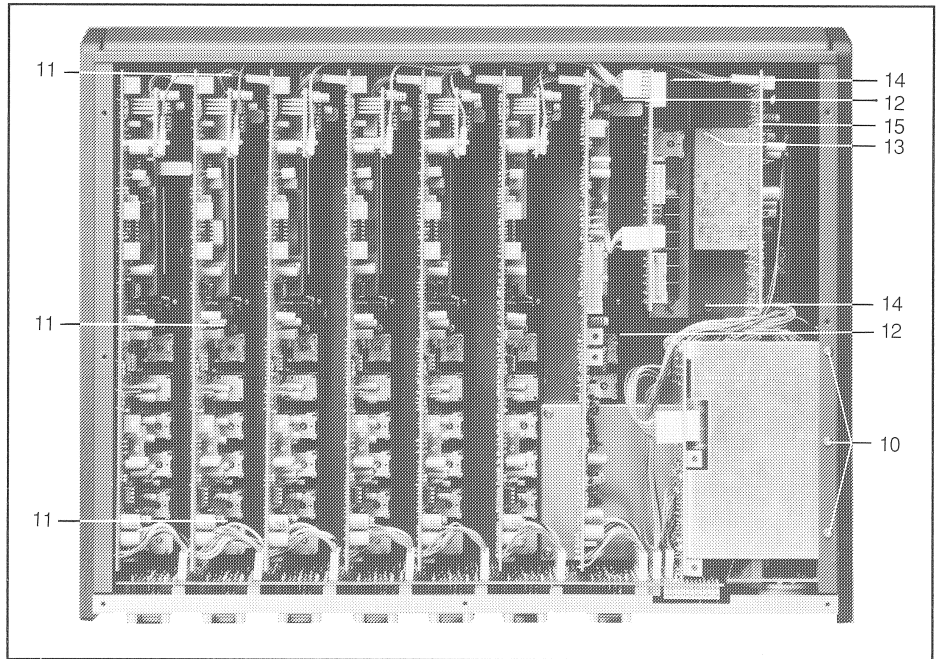
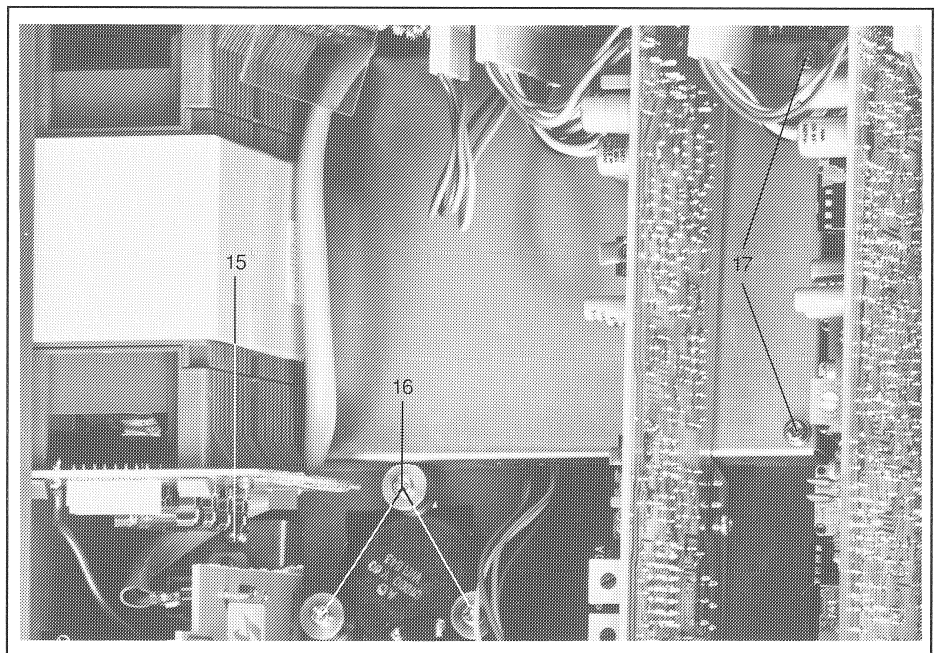

Fig. 5
Fig. 6
- Unfasten 3 screws [10], Fig. 5
- Unfasten 3 screws [11], Fig. 5.
- Unfasten 2 screws [12], Fig. 5.
- Unfasten 1 screw [13], Fig. 5.
- Unfasten 2 screws [14], Fig. 5.
- Unfasten 2 screws [15], Fig. 5, and [15], Fig. 6.
- Unfasten 2 screws [17], (fig. 6). The screening plate and the display module can now be removed.